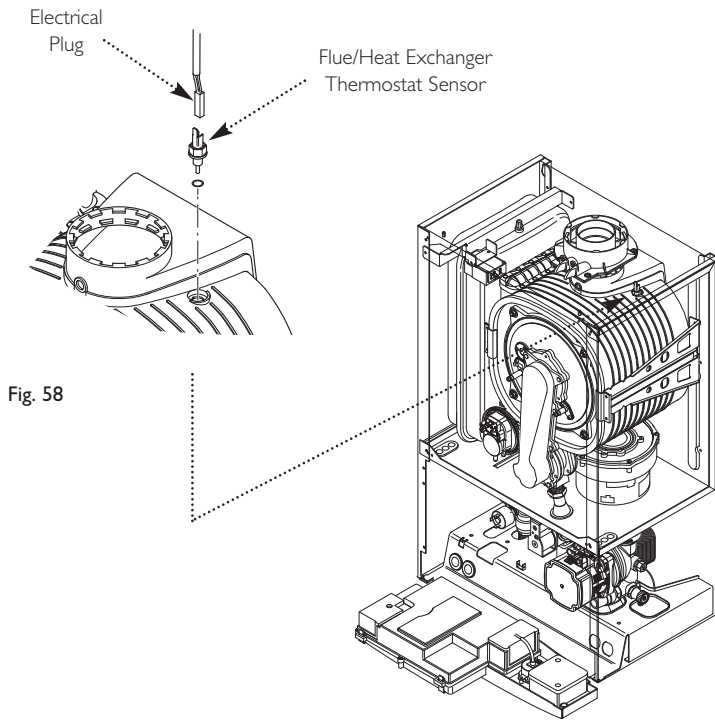

Fig. 58
13.9 Flue/Heat Exchanger Thermostat Sensor (Fig. 58)